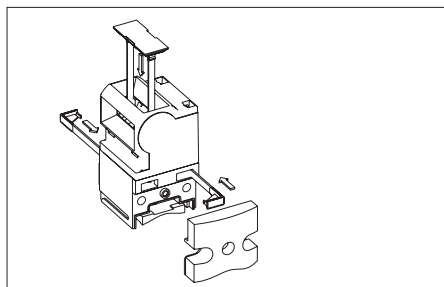

Figure 2: Fitting the locking pins and the slot cover
- ▶ Fit locking pins for protection against twisting (Figure 2). It is then not possible to change the actuating direction again.
- ▶ Cover the unused actuating slot with the enclosed slot covers (Figure 2).